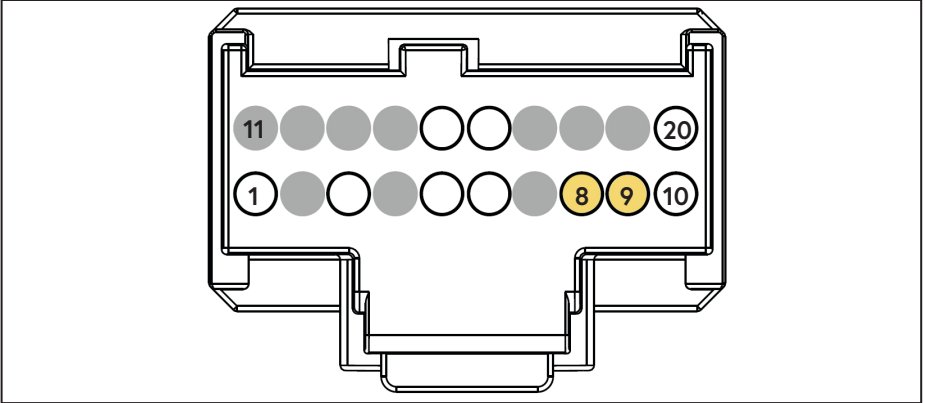

Figure 68 — PAM connector
- ☐ Using the supplied Posi-Taps (see page 50), connect the blue wire from the throttle control to the wire at pin 9 (blue wire at time of writing) of the PAM connector (Figure 68).
- ☐ Using the supplied Posi-Taps, connect the grey wire from the throttle control to the wire at pin 8 (white wire at time of writing) of the PAM connector (Figure 68)